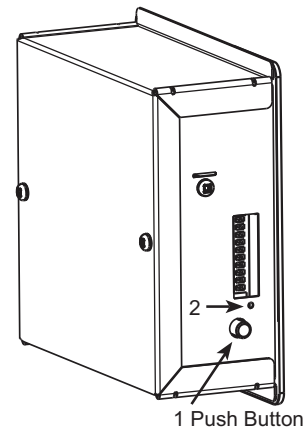

Fig. 19 - Integrated Control
All units are equipped with an integrated control, located in front of the electrical compartment. See Fig. 19. Use the push button (1)